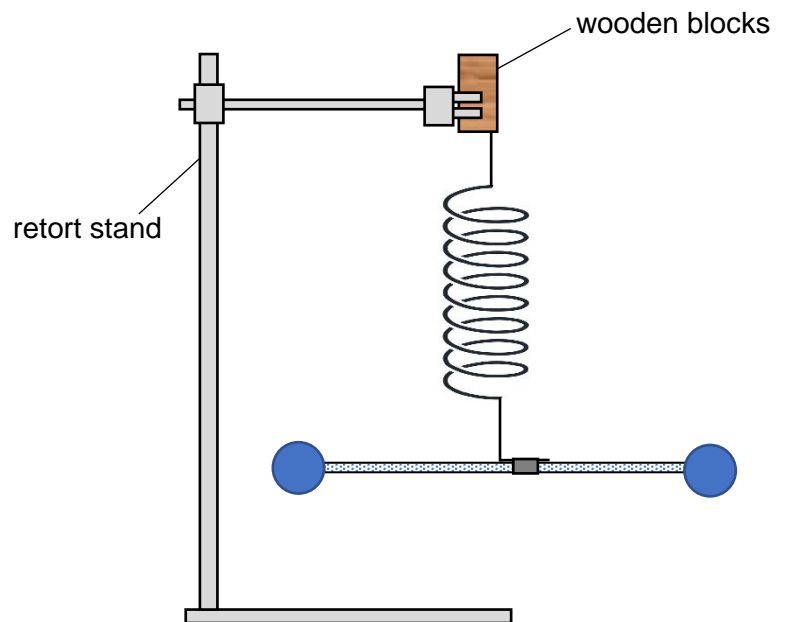

Fig. 3.5
- (ii) Clamp the spring as shown in Fig. 3.5, such that the rod is horizontal.
2. Using the same set-up as shown in Fig. 3.5 and following (c)(iii), measure and record the period T of torsional oscillation of each coiled wire. [1]